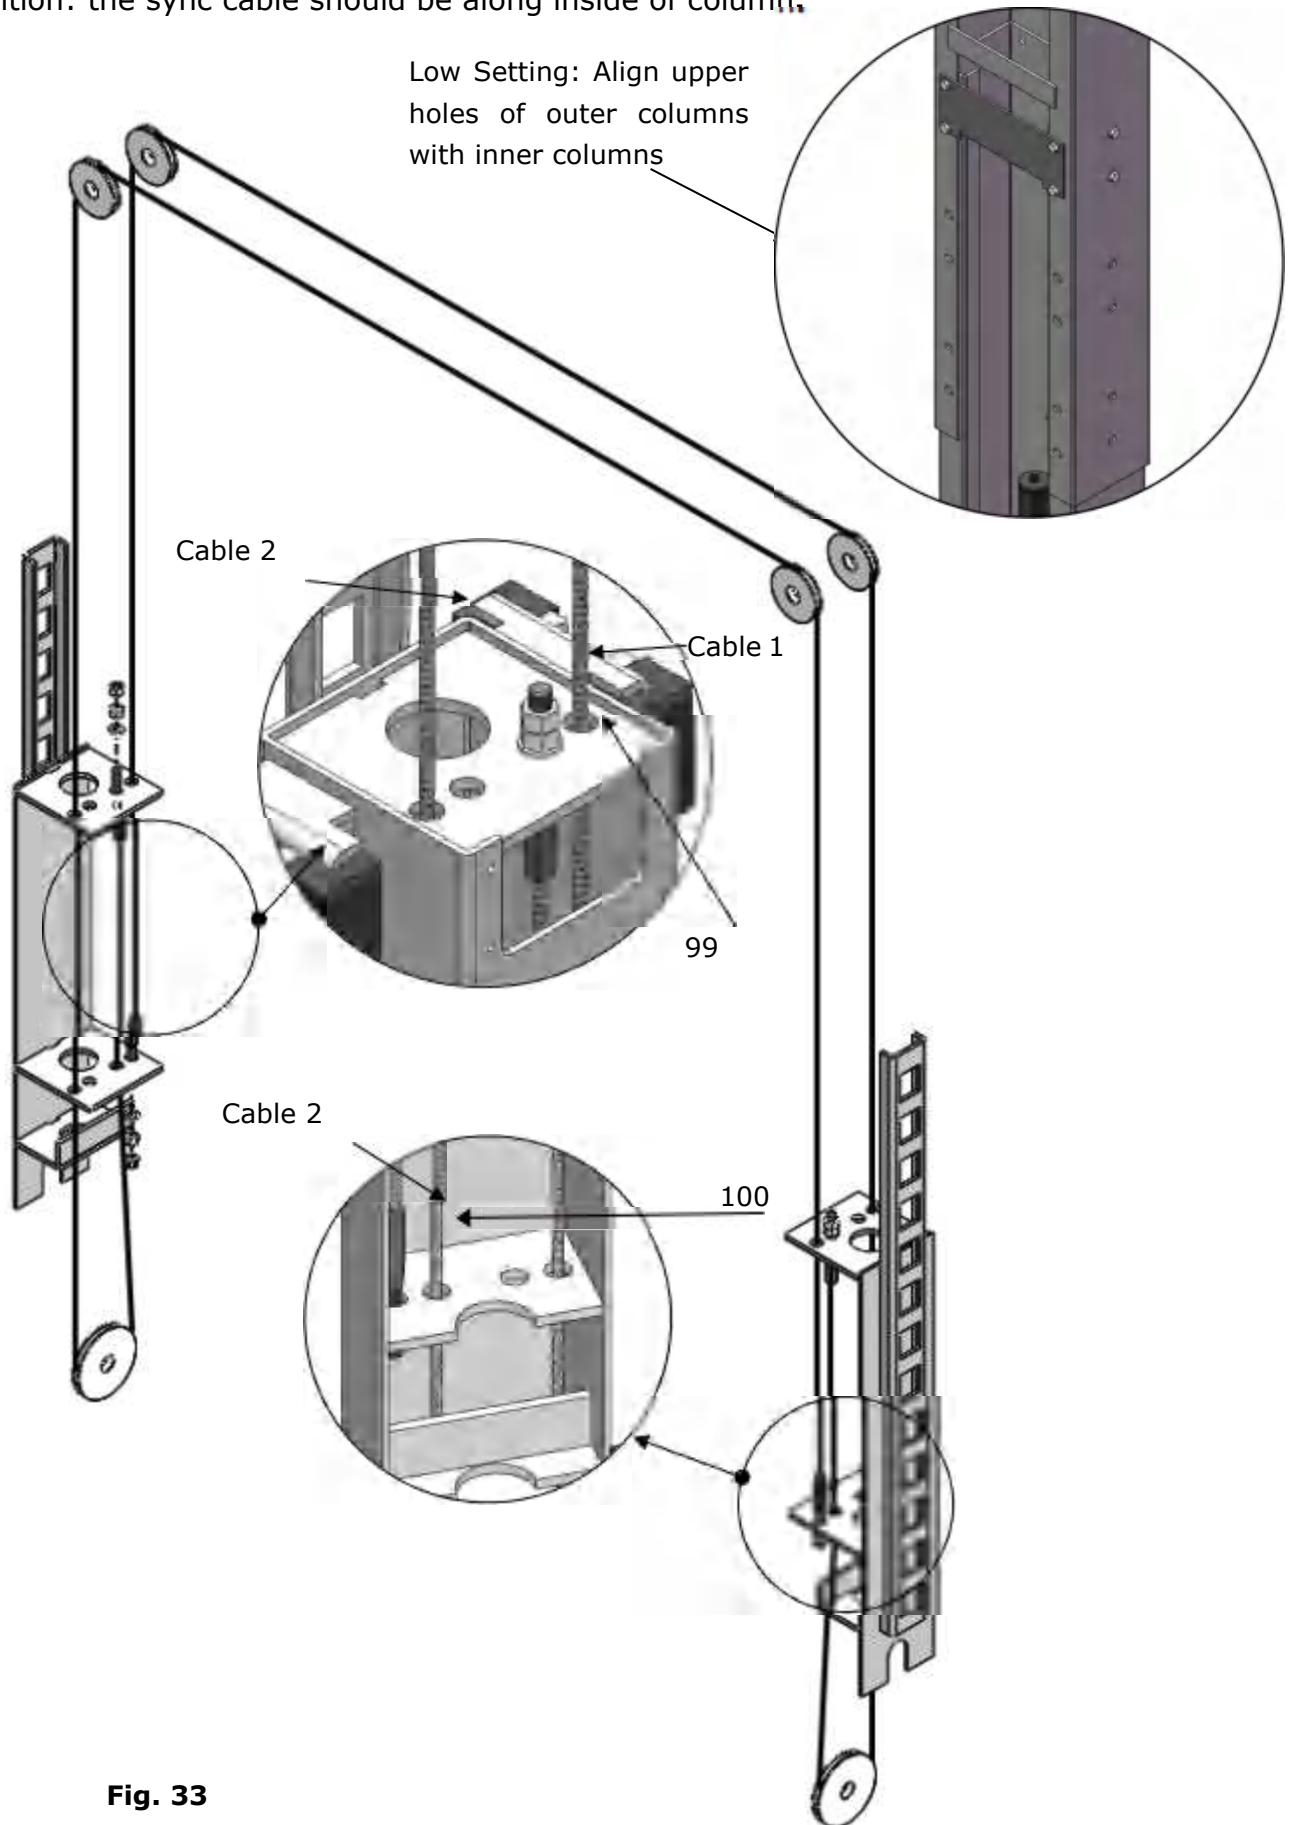

Fig. 33
3. Sync cable connection of low setting installation. **(See Fig. 33)**